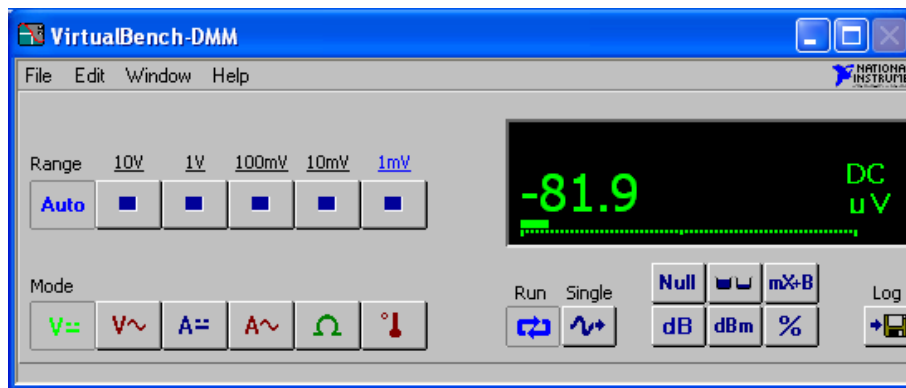
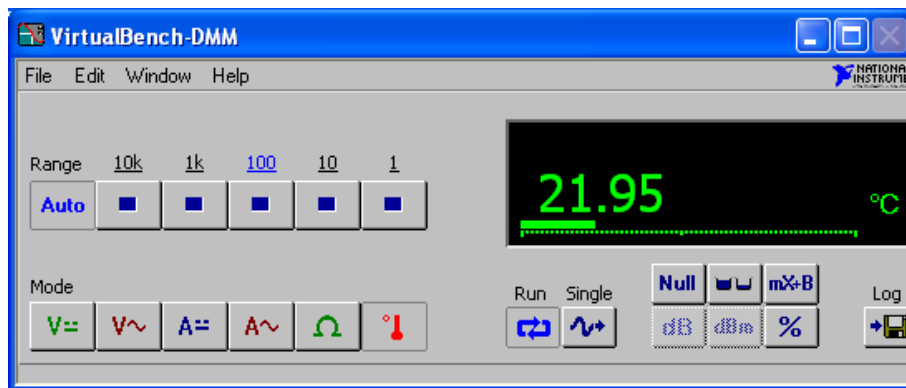

Figure 4. The VirtualBench-DMM main window in Volts DC mode. Note the mode setting (DC) and units displayed to the right of the digital output
Figure 5. The VirtualBench-DMM in Temperature Mode
- In the main DMM window (Figure 4) set the Range to Auto, the Mode to Volts DC and, when ready, click the Run Continuously button. The DMM is switched over to a direct temperature reading mode by clicking on the thermometer icon as shown in Figure 5.
- Record the temperature of each of the five cups of water using the dial thermometer, the corresponding thermocouple probe voltage from the DMM, as in Figure 4, and the temperature output from the DMM, as in Figure 5. Sample the temperatures in random order.